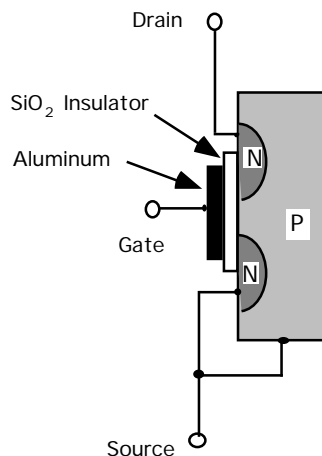

Figure 10.10b
The use of metal-oxide-semiconductor (MOS) technology to make a field effect transistor (FET) begins with a small slab of P-type silicon. As illustrated in the diagram in Figure 10.10b, two puddles of N-type material are diffused onto the left side of the slab to form the “Drain” and “Source” terminals. A very thin insulating layer of silicon dioxide (shown in white) is formed over these terminals, and a conducting layer (shown in black) is added by layering aluminum over the silicon dioxide. The aluminum layer is the “Gate” that turns the flow from Drain to Source on and off.
1. Look at Figures 10.10b and 10.10c. Based on these illustrations, why does extra charge sent into the Gate stay there until something is done from the outside to get it out?
2. Again, study Figures 10.10b and 10.10c. Does the extra charge in the Gate influence the Drain-to-Source region directly or indirectly?